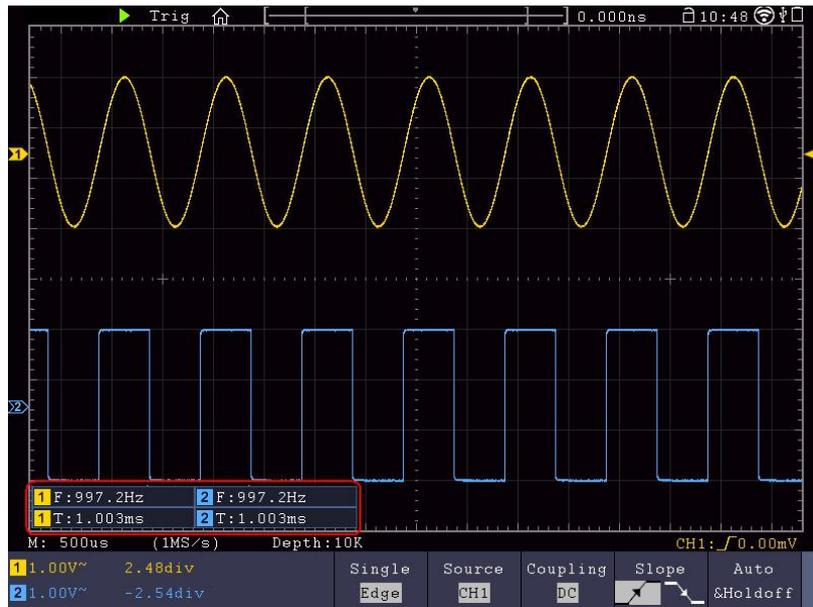

Figure 8- 1 Measure period and frequency value for a given signal
- (1) Push the **Autoset** button and the oscilloscope will automatically adjust the waveforms of the two channels into the proper display state.
- (2) Push the **Measure** button to show the Measure menu.
- (3) Select **Add** in the bottom menu.
- (4) In the right menu, select **CH1** in the **Source** menu item.
- (5) In the left Type menu, turn the **M** knob to select **PK-PK**.
- (6) In the right menu, select **Add**. The peak-to-peak type of CH1 is added.
- (7) In the right menu, select **CH2** in the **Source** menu item.
- (8) In the left Type menu, turn the **M** knob to select **PK-PK**.
- (9) In the right menu, select **Add**. The peak-to-peak type of CH2 is added.
- (10) Read the peak-to-peak voltages of Channel 1 and Channel 2 from the bottom left of the screen (see *Figure 8- 2*).
- (11) Calculate the amplifier gain with the following formulas.